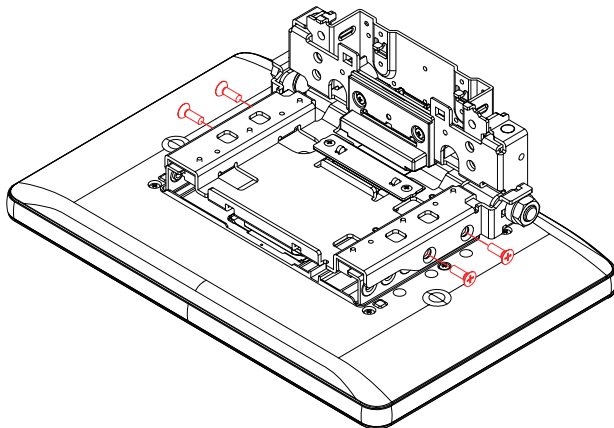

Fig.3
- (3) Remove the 4 screws. (See Fig.3)